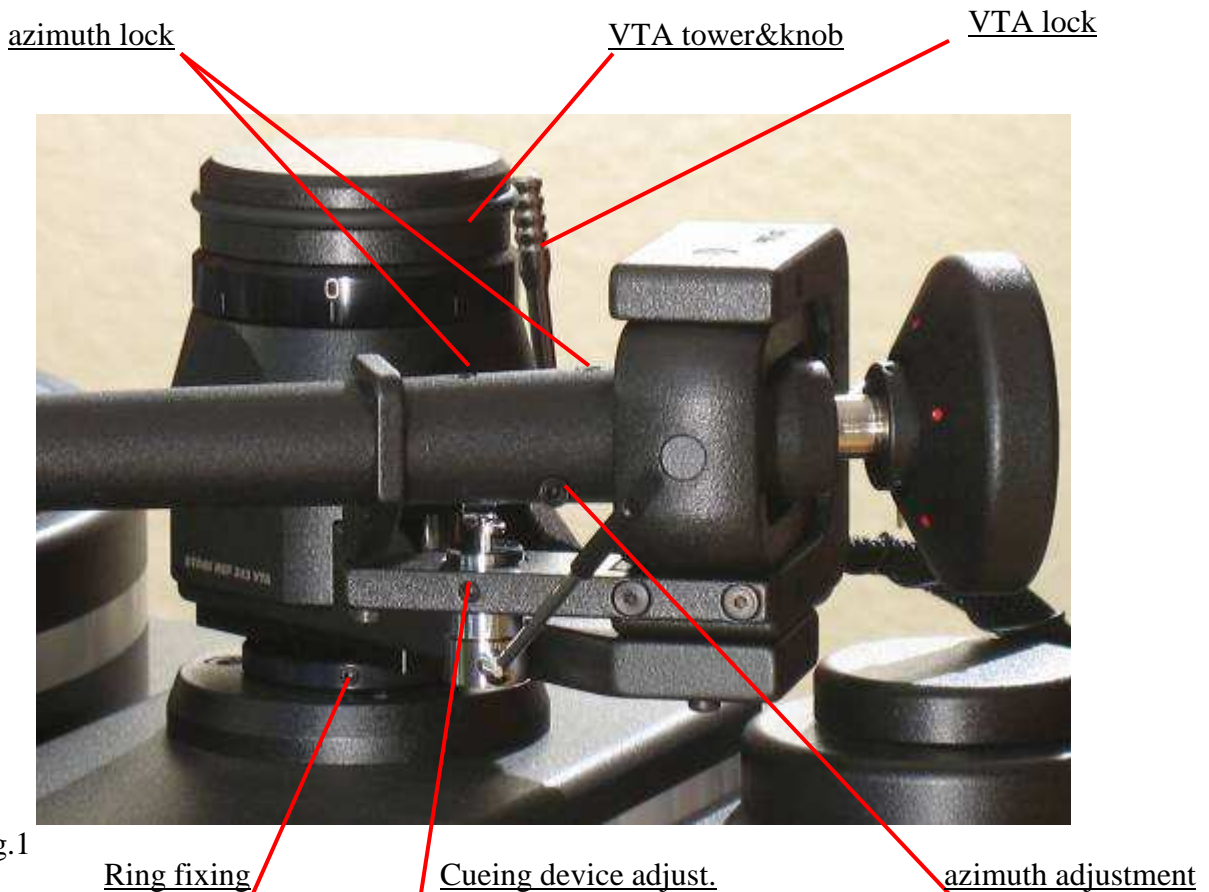

Fig.1
It is extremely easy to set up VTA on this tonearm. Just unlock the lever at the back and rotate the VTA knob. VTA knob rotation CW- VTA down (Fig.1)
To make azimuth adjustments, release the two screws locking the mechanism at the centre top of the main tonearm tube, with Allen key 2mm. Under the main tube is a tiny rod with a hexagonal screw. Insert the Allen key 2 mm into the screw (it may feel loose), rotate it slightly and it will alter the azimuth. (Fig.1)
The cueing device may lift slightly as the screw is retightened. Do not over-tighten as this may cause the cueing device to stick in the 'up' position. Should this occur, slightly release the screw. (Fig.1)